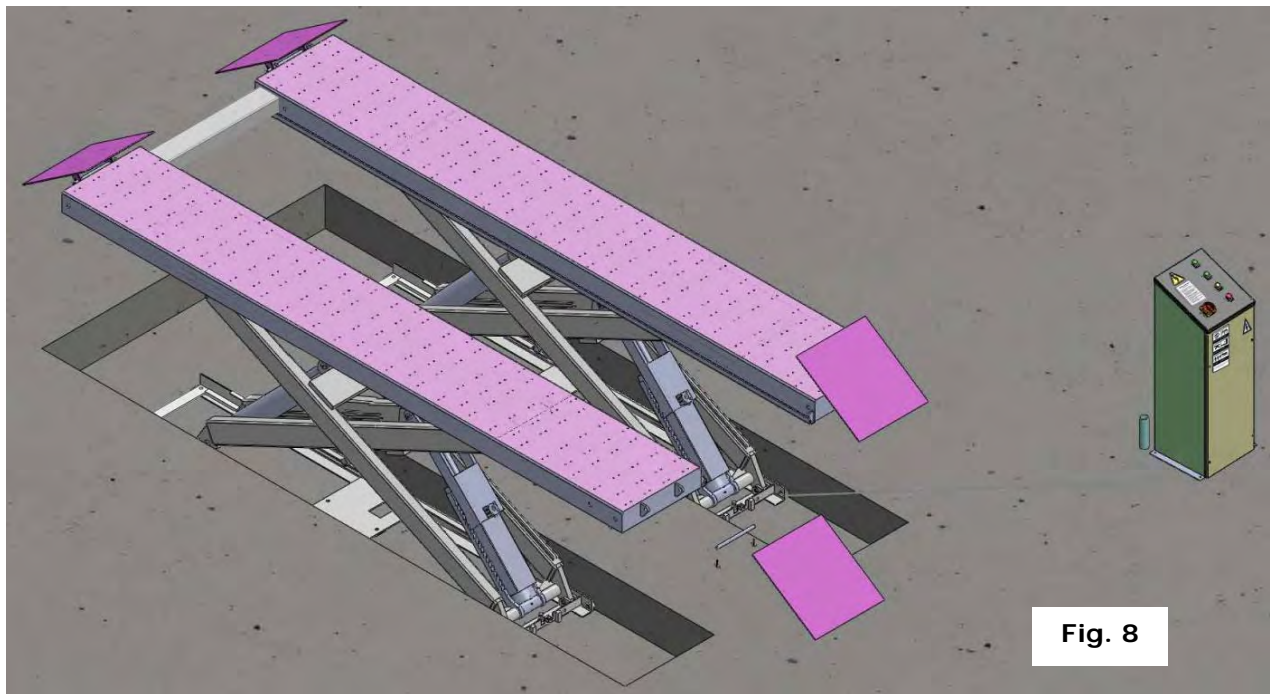

Fig. 8
2.2 Illustration of scissors lift 30-SS1201S flush mount installation (Fig.8).